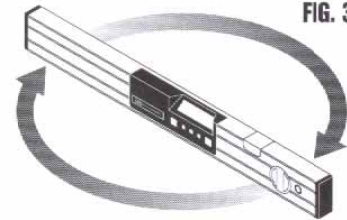

FIG. 3
Step 2: Rotate SMARTTOOL™ end-for-end on the flat surface with the display now facing away from you. Wait 10 seconds. (see fig. 3)